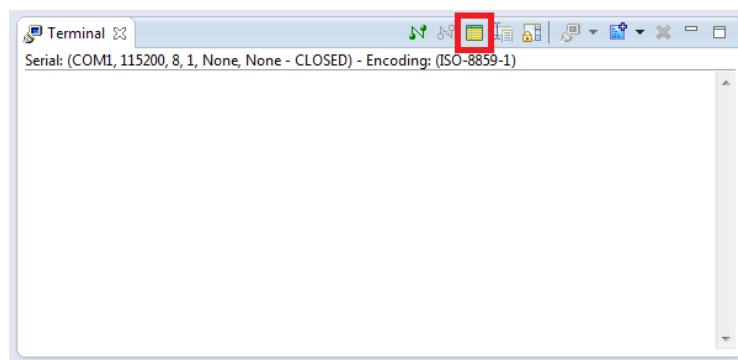

Figure 13-8. ARM DS-5 Serial Terminal
70. Although we can continue to use the “minicom” program as we previously did in Figure 13-5, we will use the built-in serial terminal available in *ARM DS-5* to have all development windows in one area. Go to “Window > Show View > Other... > Terminal > Terminal” to open *ARM DS-5*’s the built-in serial terminal. You should see the terminal shown in Figure 13-8.